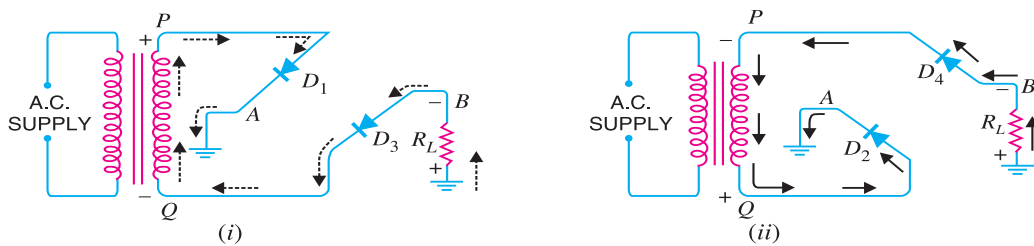

Fig. 6.27
**Operation.** During the positive half-cycle of secondary voltage, the end  $P$  of the secondary winding becomes positive and end  $Q$  negative. This makes diodes  $D_1$  and  $D_3$  forward biased while diodes  $D_2$  and  $D_4$  are reverse biased. Therefore, only diodes  $D_1$  and  $D_3$  conduct. These two diodes will be in series through the load  $R_L$  as shown in Fig. 6.27 (i). The conventional current flow is shown by dotted arrows. It may be seen that current flows from  $A$  to  $B$  through the load  $R_L$ .
During the negative half-cycle of secondary voltage, end  $P$  becomes negative and end  $Q$  positive. This makes diodes  $D_2$  and  $D_4$  forward biased whereas diodes  $D_1$  and  $D_3$  are reverse biased. Therefore, only diodes  $D_2$  and  $D_4$  conduct. These two diodes will be in series through the load  $R_L$  as shown in Fig. 6.27 (ii). The current flow is shown by the solid arrows. It may be seen that again current flows from  $A$  to  $B$  through the load *i.e.* in the same direction as for the positive half-cycle. Therefore, d.c. output is obtained across load  $R_L$ .